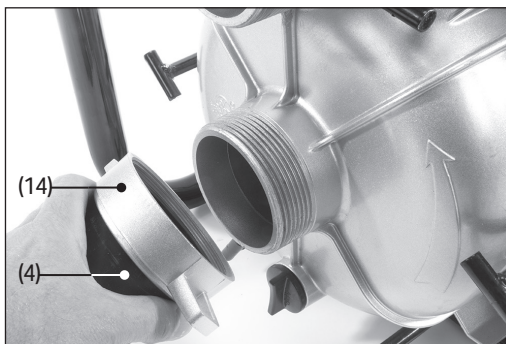

Fig. 2
3. Screw the hose barb assembly onto the pump inlet (13) (Fig. 2).